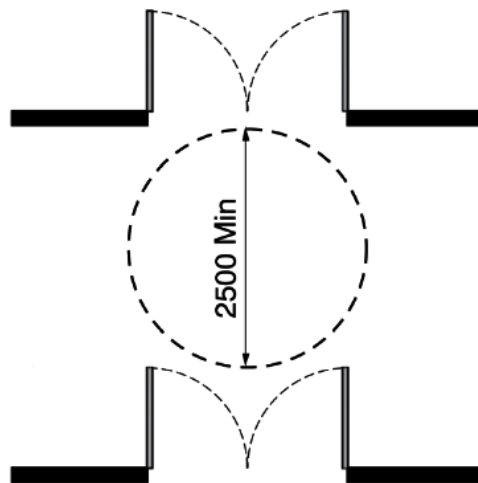

Figure 45: Entrance Vestibule
- Ensure there is a 2500 mm clear turning circle plus the width of the door swing (See Figure 45)